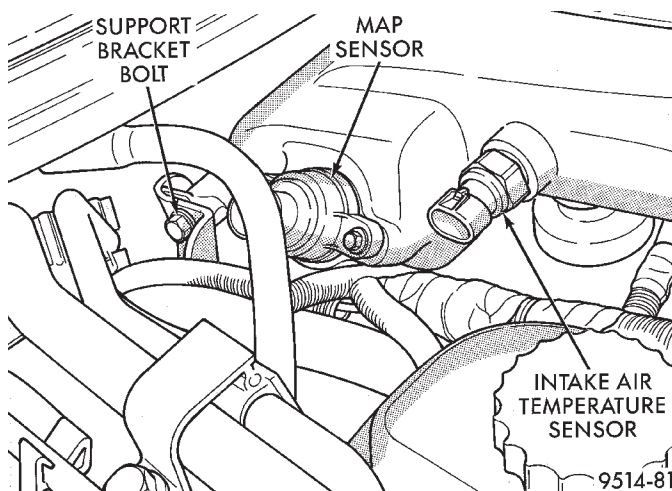

Fig. 36 Intake Manifold Sensors and Left Plenum Support Bolt
(1) Disconnect negative cable from auxillary jumper terminal.
(2) Unplug connectors from MAP and intake air temperature sensors (Fig. 36).
(3) Remove plenum support bracket bolt located rearward of MAP sensor (Fig. 36).